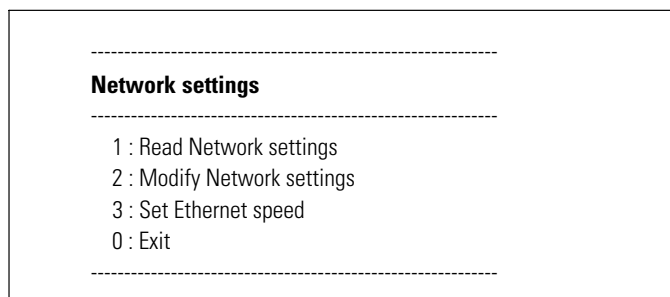

Figure 10. Network Settings Menu
- From the main menu, type **2** and press **Enter**. The Network Settings menu displays (see Figure 10).